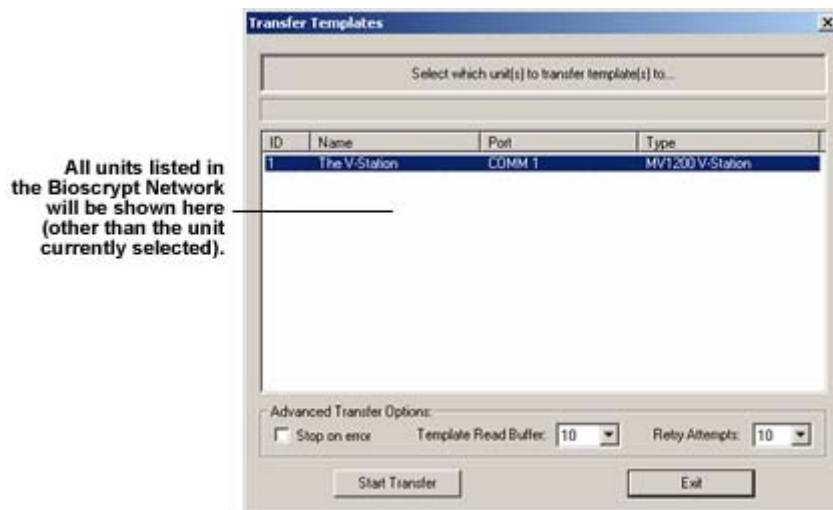

Figure 28: Transfer Templates from Unit to Unit
3. When the screen in Figure 28 appears, highlight the units to which you wish to transfer the templates.